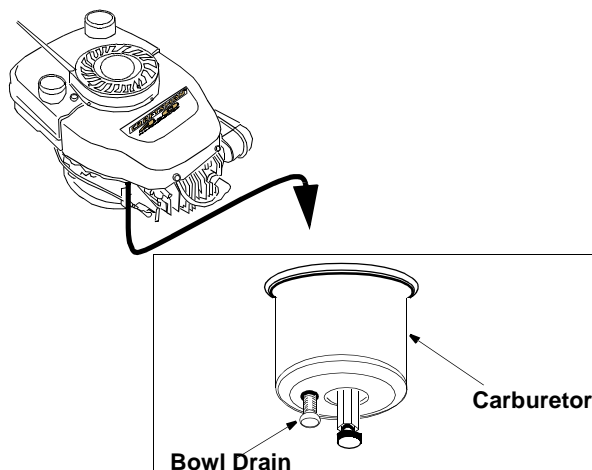

Figure 21
- Drain carburetor by removing bowl drain screw which is located below the carburetor. See Figure 21.